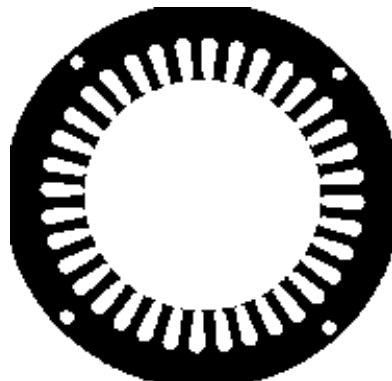

Figure 5
- laminated to reduce eddy current loss, see figure 5